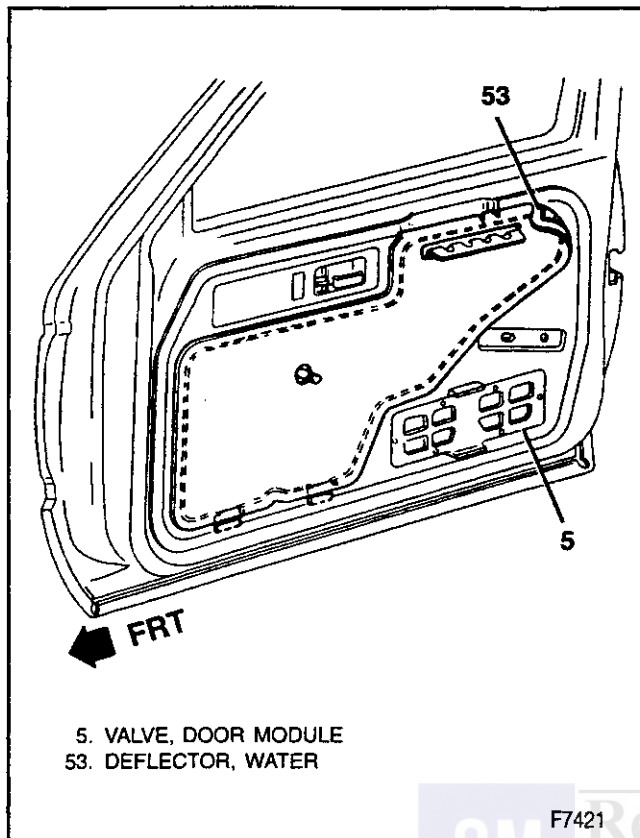

Figure 13—Inner Panel Water Deflector and Pressure Relief Valves
**Remove or Disconnect (Figure 13)**
**Install or Connect (Figure 13)**